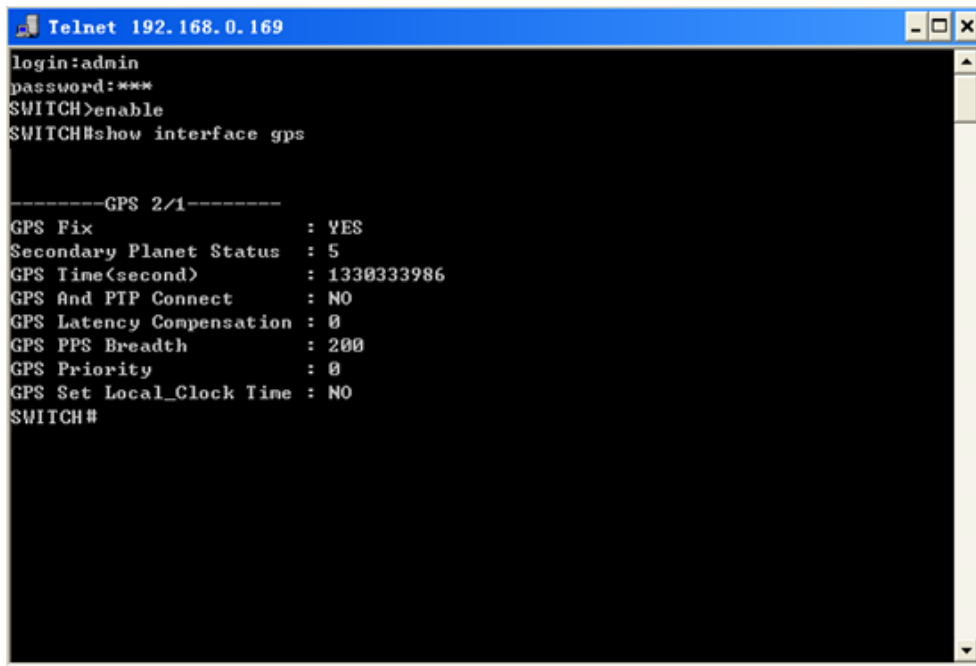

Figure 22 Telnet Configuration Interface
3. Click “OK” to enter the Telnet configuration interface as shown in Figure 22. Login with default user name “**admin**” and password “**123**”, and type in the command “enable” to enter management view, and then type in the command “show interface gps” to search for current information of the module.